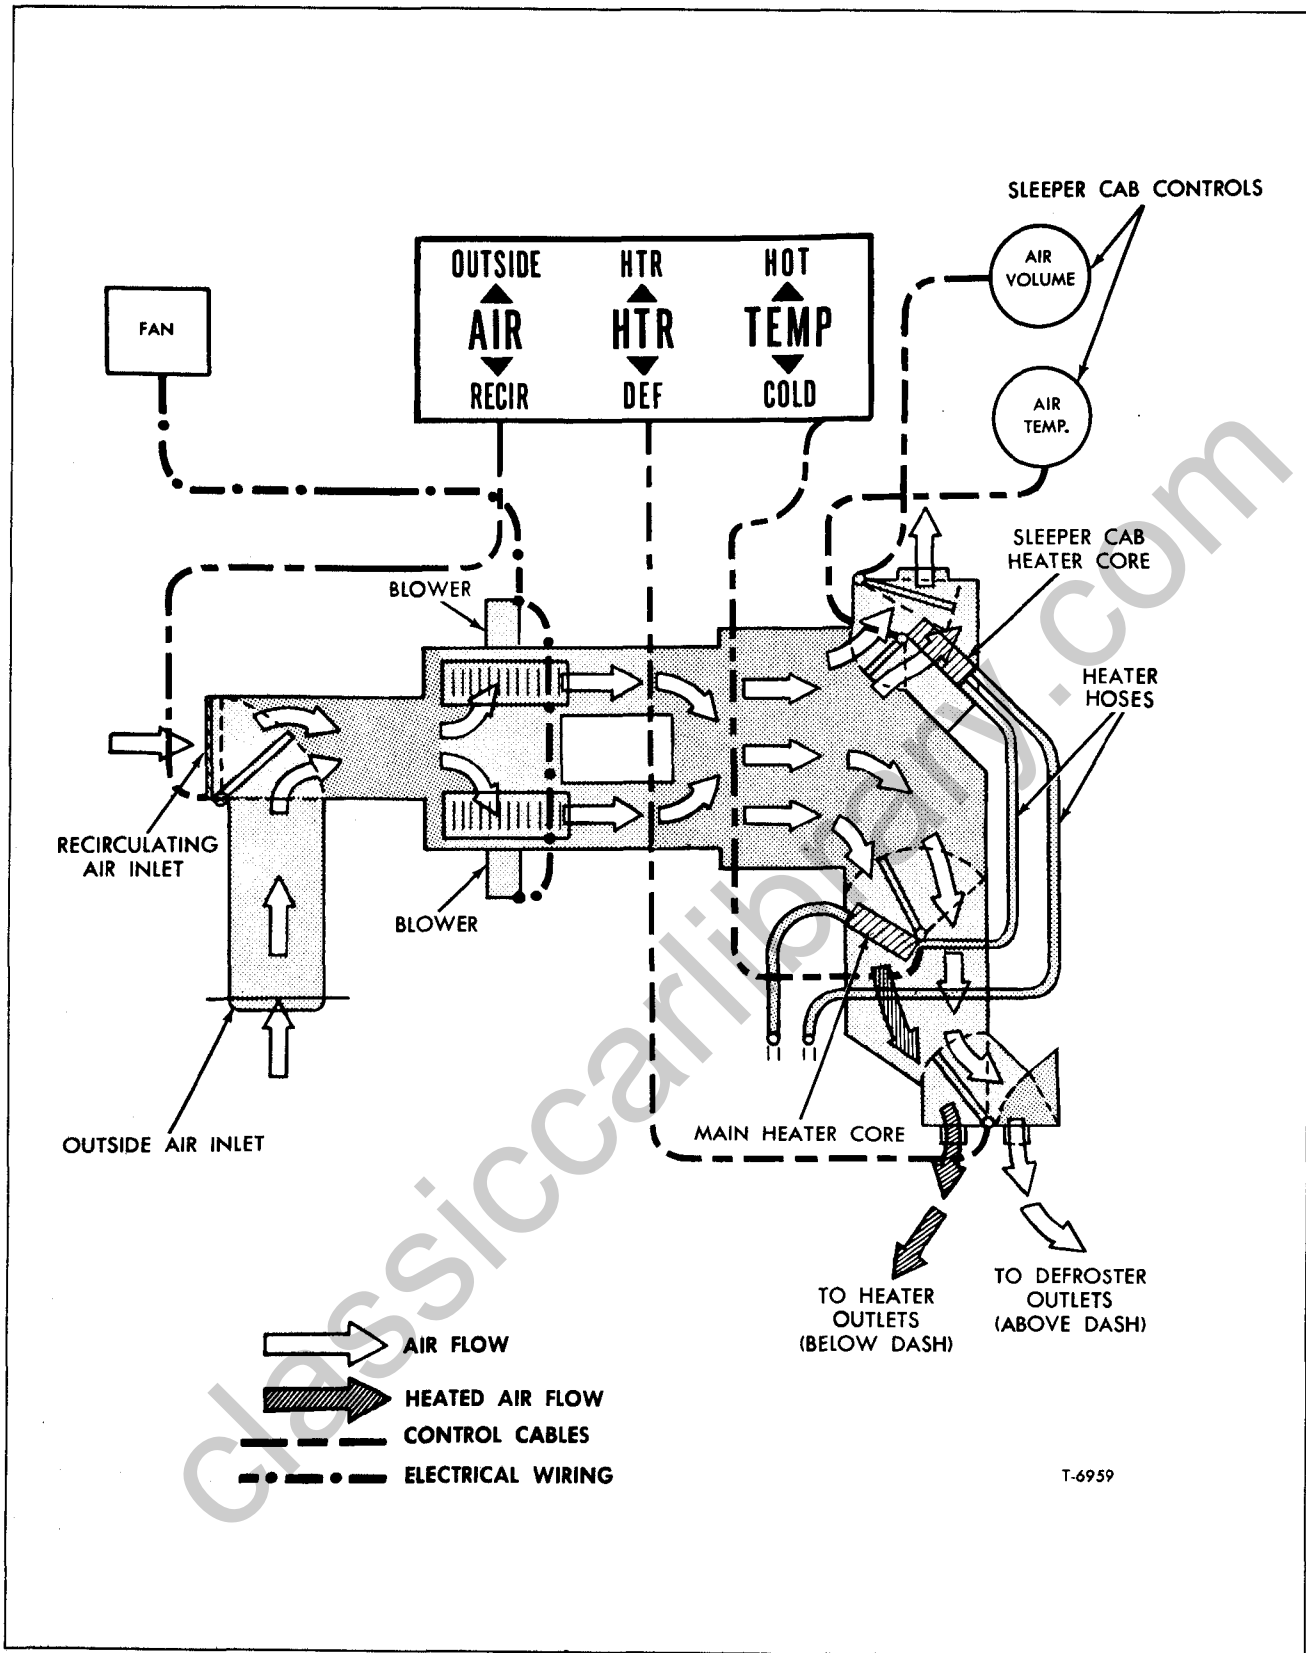

Figure 42—Heater Air Flow and Control Schematic
Heater core is located inside main heater housing (fig. 42) which is positioned in center console of cab. The sleeper heater core assembly is attached to left rear side of main heater housing.
AIR CIRCULATION (Fig. 42)
(Refer to Figure 42)
INLET AIR ASSEMBLY, MAIN HEATER HOUSING, AND AIR DISTRIBUTOR (Refer to Figs. 42 and 46)
5. Connect all heating and cooling control cables (refer to fig. 42).